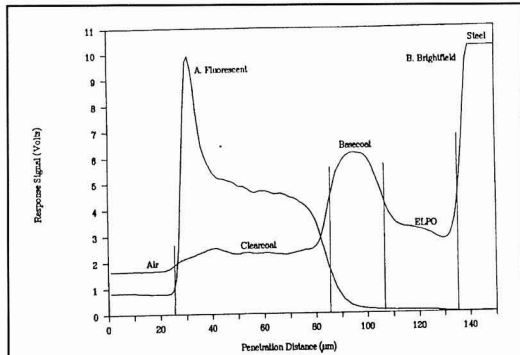

Figure 8—Reflected light intensity as a function of depth. (A) Fluorescent illumination; and (B) bright-field illumination.
**FLUORESCENT MICROSCOPY:** Figure 8 is a composite bright-field and fluorescent tracing of the response voltage versus the penetration distance into a basecoat/clearcoat sample which was immersed for 500 sec at  $70^\circ\text{C}$  in 1 N acid solution containing 0.2% Tinopal BL.